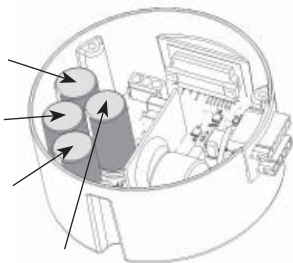

Figure 10b
5. Inspect capacitors inside of control unit for bulging or swelling caps [Figure 10b].